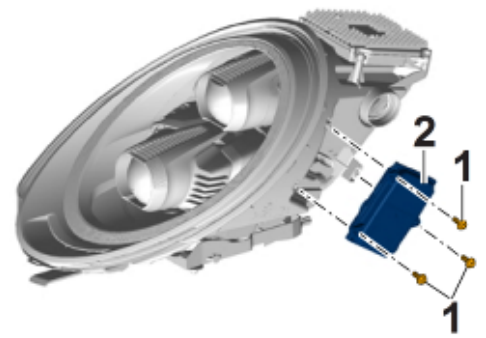

Figure 3
- 2.1 Remove light adjustment control unit from the standard headlight and install it on the new headlight. ⇒ *Figure 3* ⇒ *Workshop Manual '945719 Removing and installing control unit for light adjustment'*